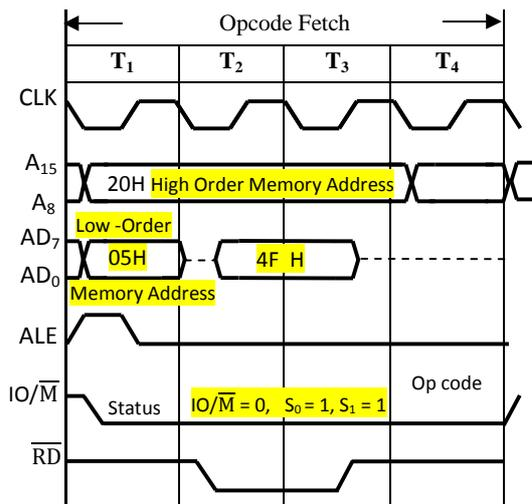

Fig. 1.6 Timing Diagram : Transfer of Byte from Memory to Microprocessor
- ✓ Fig 1.6 shows the timing diagram of how a data byte is transferred from memory to the microprocessor from which the need for demultiplexing the bus AD₀-AD₇ becomes easier to understand.
- ✓ Fig. 1.6 shows a schematic that uses a latch and the ALE signal to demultiplex the bus. The bus AD₇-AD₀ is connected as input to latch 74LS373.
- ✓ The ALE signal is connected to Enable (G) pin of the Latch, and the Output control (\overline{OC}) signal of the latch is grounded.
- ✓ Fig 1.6 shows that the ALE goes high during T_1 . When the ALE is high, the latch is transparent; that means output changes according to the input data.
- ✓ Fig 1.6 shows the \overline{RD} (Read) as a control signal. Because this signal is used both for reading memory and for reading an input device, it is necessary to generate two different Read signals: one for memory and another for input. Similarly, two separate Write signals must be generated.